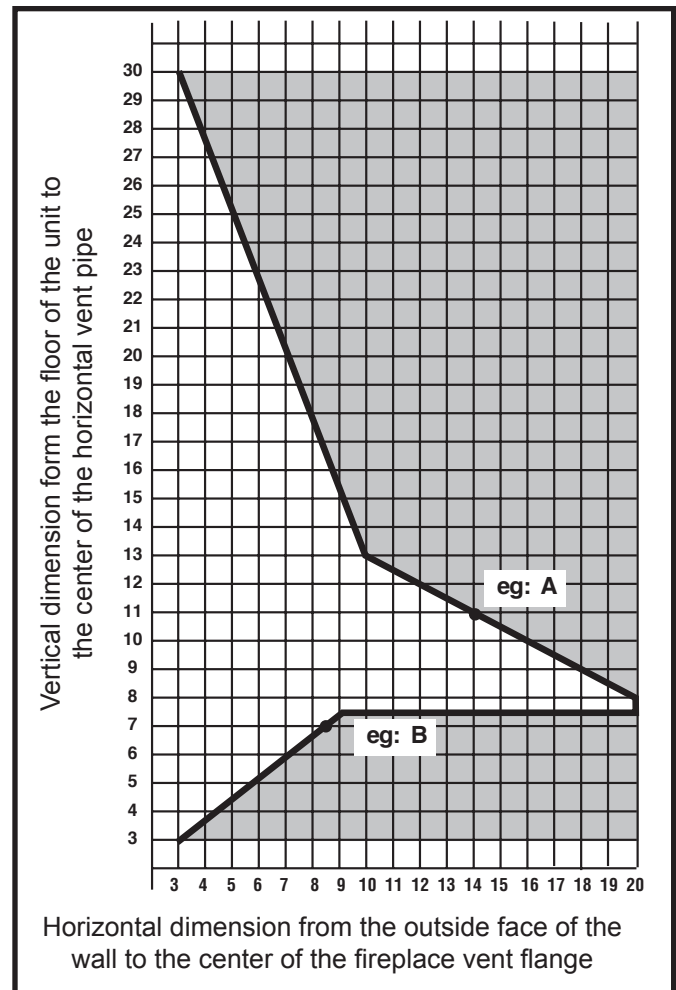

Fig. 18 Sidewall venting graph. (Dimensions in feet)
1. Determine the height of the center of the horizontal vent pipe exiting through the outer wall. Using this dimension on the Sidewall Vent Graph (Fig. 18), locate the point intersecting with the slanted graph line.